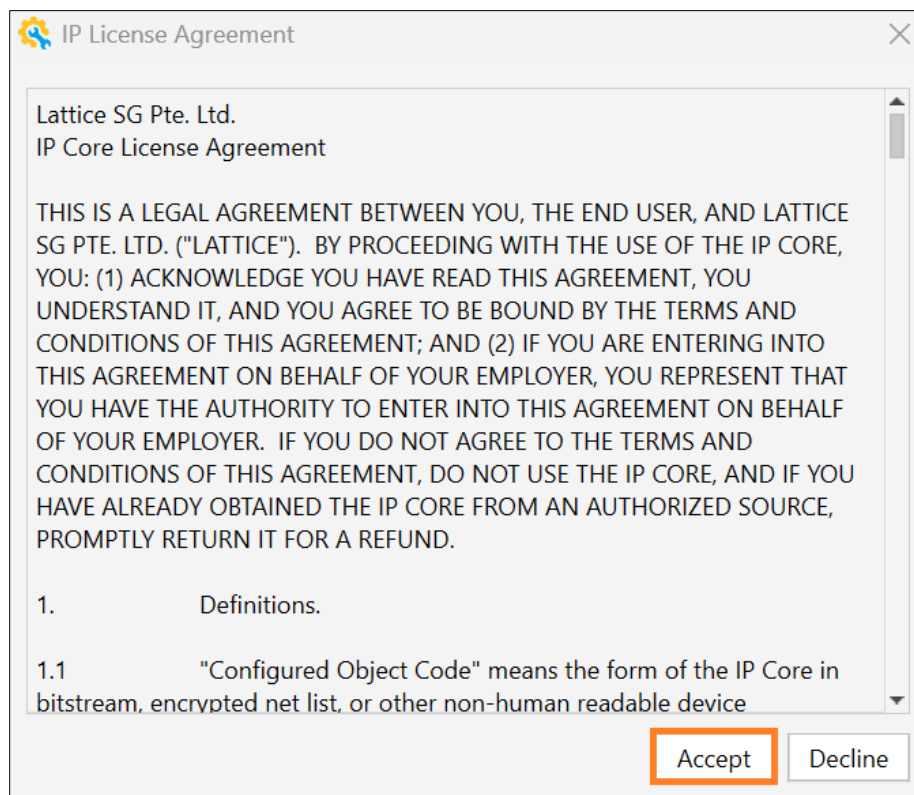

Figure 5.10. IP License Agreement
- d. In the **IP License Agreement** window, click **Accept** to finish the IP installation, as shown in Figure 5.10.